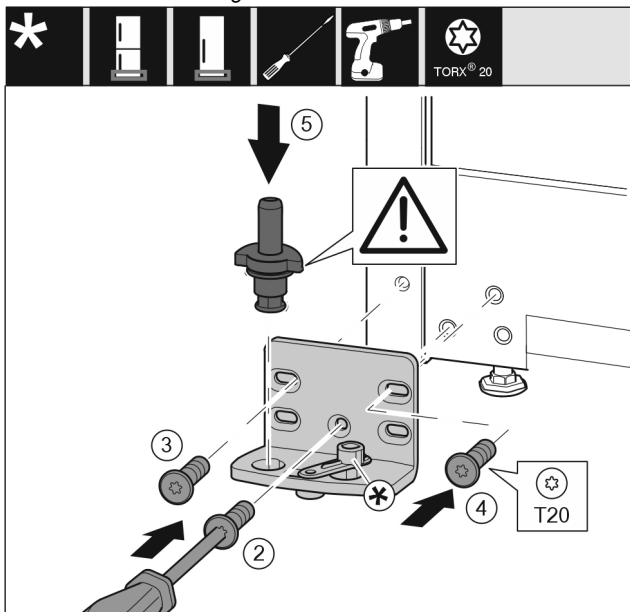

Fig. 11
- ▶ Place the bearing bracket on the other side and screw it on with a T20 screwdriver. Start with screw 2 at the bottom in the middle. Fig. 11 (2)
- ▶ Screw in screws 3 and 4 tightly. Fig. 11 (3,4)
- ▶ Insert the bearing pin completely. Make sure that the latching lug is pointing to the rear. Fig. 11 (5)